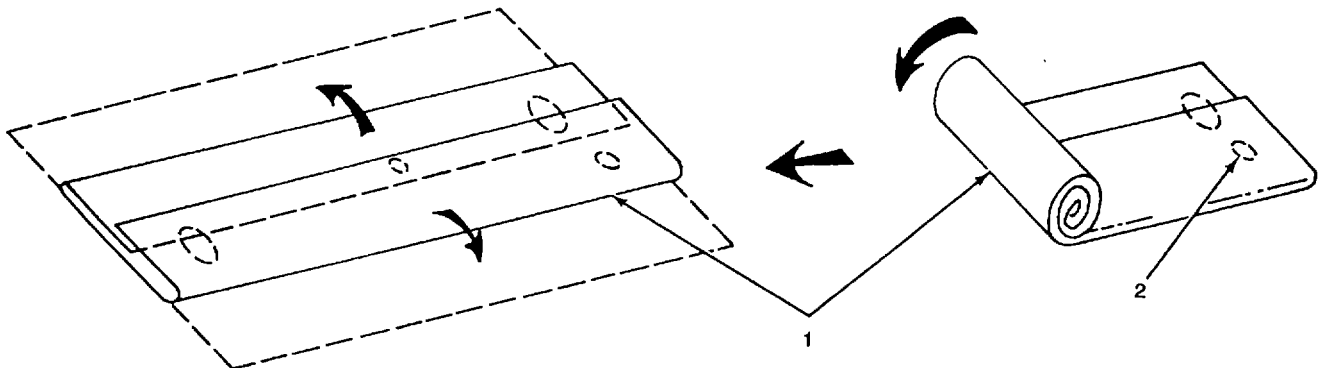

Figure 2-19. Proper Unroll and Unfold of Storage Tank
- (9) Unroll storage tank (1, Figure 2-19) and unfold sides. Drain end (2) of tank will unroll first. Refer to applicable technical manual for storage tank assembly procedures.